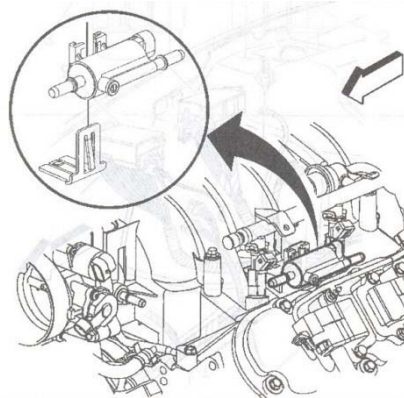

Fig.13
- 5) Remove and discard purge solenoid bracket. There is no provision on new manifold for this bracket (Fig. 13).